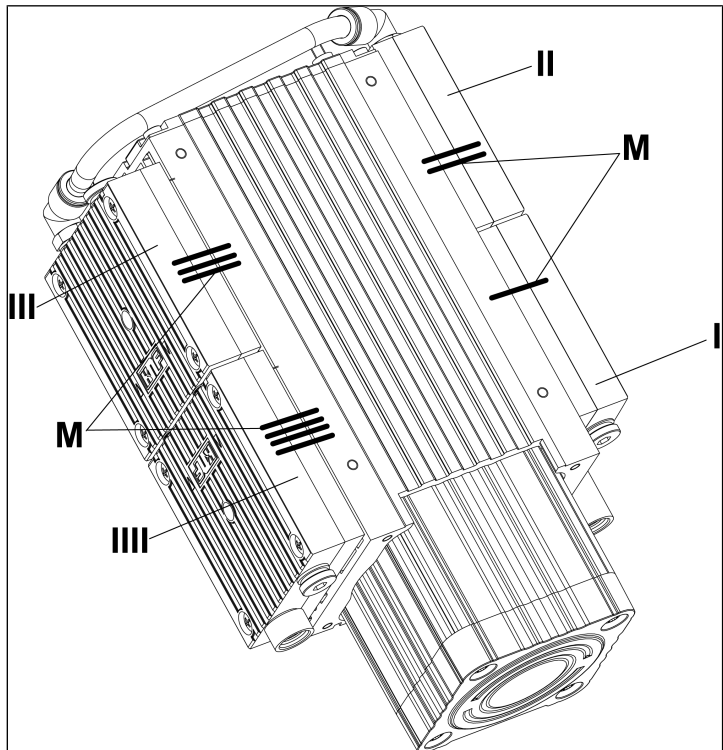
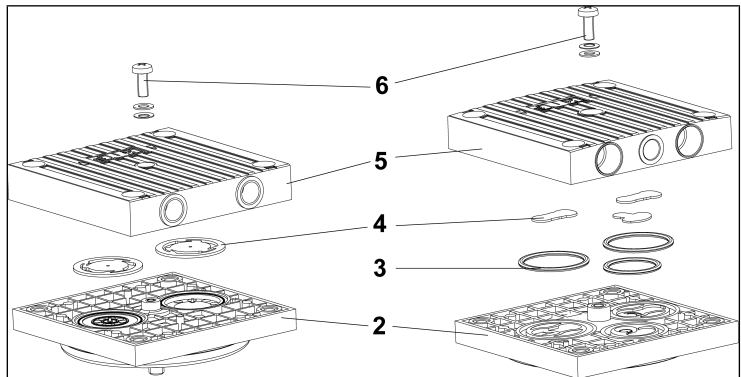

Fig. 8: Marking of the pump
Fig.11: Exploded view of the pump head
3. Head 1 (I/ Fig. 8):
4. Head 2 (II/ Fig. 8):
5. Head 3 (III/ Fig. 8):
6. Head 4 (IIII/ Fig. 8):
9. On both heads, loosen the head screw (6/Fig. 11) in the head plate (5/Fig. 11).
10. Remove the head plate from the intermediate plate (2/Fig. 11).
1. Remove the valves (4/Fig. 11) from the intermediate plates (2/Fig. 11).
Remove the O-rings (3/Fig. 11).
3. Insert the new valves (4/Fig. 11) in the intermediate plates (2/Fig. 11).
Insert the new O-rings (3/Fig. 11) in the intermediate plates (2/Fig. 11).
5. Place the head plates (5/Fig. 11) on the intermediate plates (2/Fig. 11) according to the felt tip pen markings (M/Fig. 8).
6. On both heads, tighten the head screw of the head plate (6/Fig. 11) carefully, lightly and hand-tight (tightening torque: 60 Ncm).
5. Perform steps 6-8 (removing the pump head), as well as steps 1-6 (replacing the valve plates and fitting the intermediate plates) and steps 1-4 (replacing the diaphragms and fitting the pump head) for heads 3 and 4 (III and IIII/ Fig. 8).